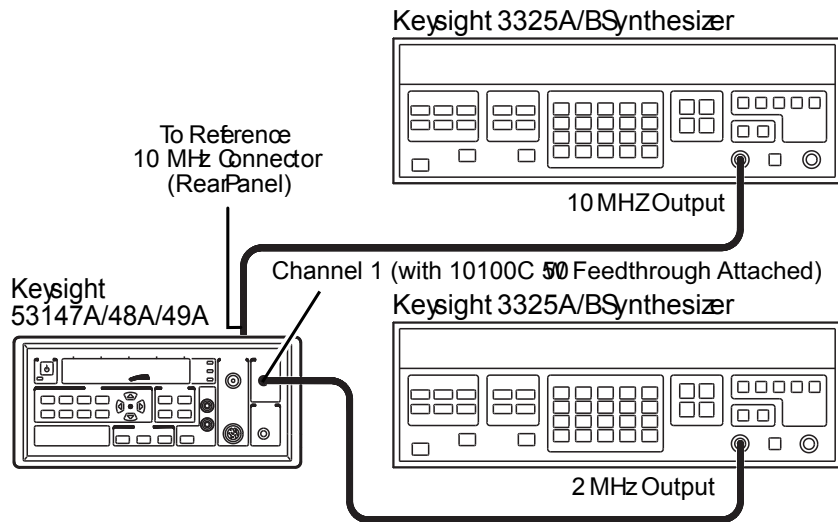

Figure 1-1 External Timebase Test Setup
- 1 Connect an Keysight 10503 series coaxial cable between the output of the first Keysight 3325A/B Synthesizer and the **Reference 10MHz** connector on the instrument's rear panel (see Figure 1-1).